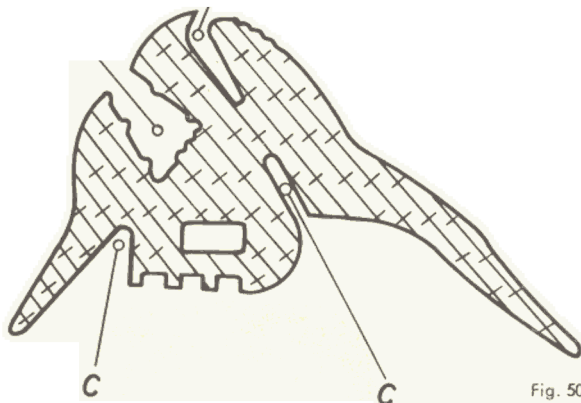

Fig. 50
5. Insert lower rubber seal (see fig. 50).